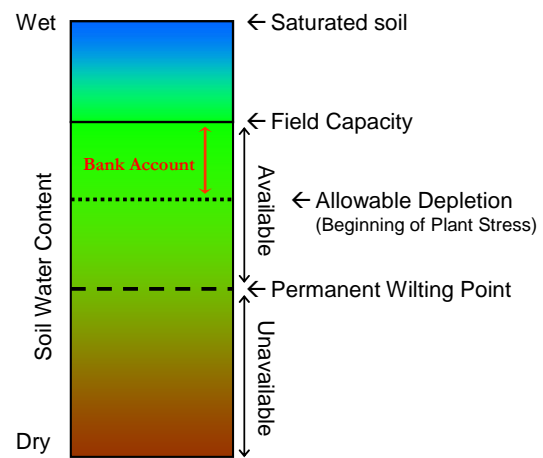

Figure 1. Soil water content from saturated to dry. Optimal levels for plant growth are between field capacity and allowable depletion.
- **Available Water** is the amount of water held in the soil between field capacity and permanent wilting point. (Figure 1.)